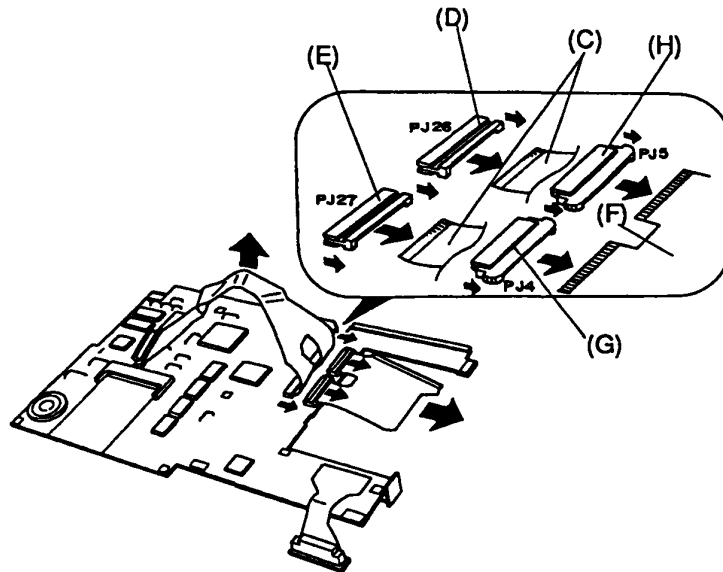

Figure 4-26 Disconnecting the power supply cable and HDD cable
6. Turn the system board over and disconnect the power supply board cable (C) from pressure plate connectors PJ26 (D) and PJ27 (E) and the hard disk cable (F) from pressure plate connectors PJ4 (G) and PJ5 (H) (Figure 4-26).
1. Connect the hard disk drive cable to PJ4 and PJ5 on the bottom of the system board (Figure 4-26).
2. Connect the power supply cable to PJ26 and PJ27 on the bottom of the system board (Figure 4-26).